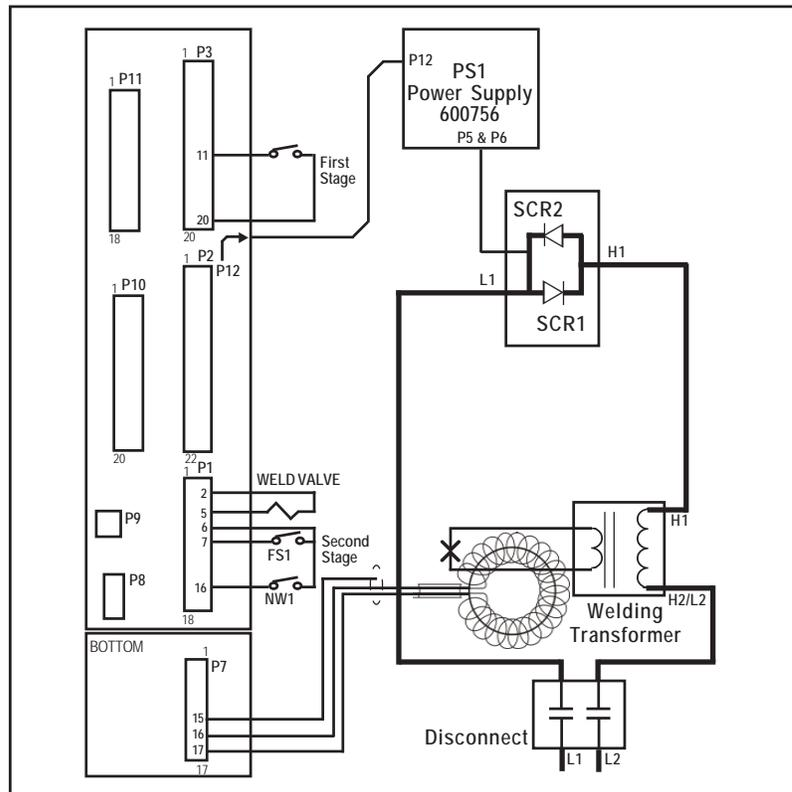

Figure 6-1. Basic connections
1. Make basic connections as shown in Figure 6-1. Additional connections (see Section 4.4.3) may be needed, depending on installation requirements, but connections shown are the most basic which are required in order to run equipment. For your convenience, many electrical and mechanical connections have been performed at the factory. Refer to Wiring Diagram for other connections.
5. Place the control in No Weld. Use either RPP2's WELD/NO WELD feature (see Section 5.1) or External Weld/No Weld Switch connected to Terminal Strip between NW1 and FSC (see Figure 6-1).